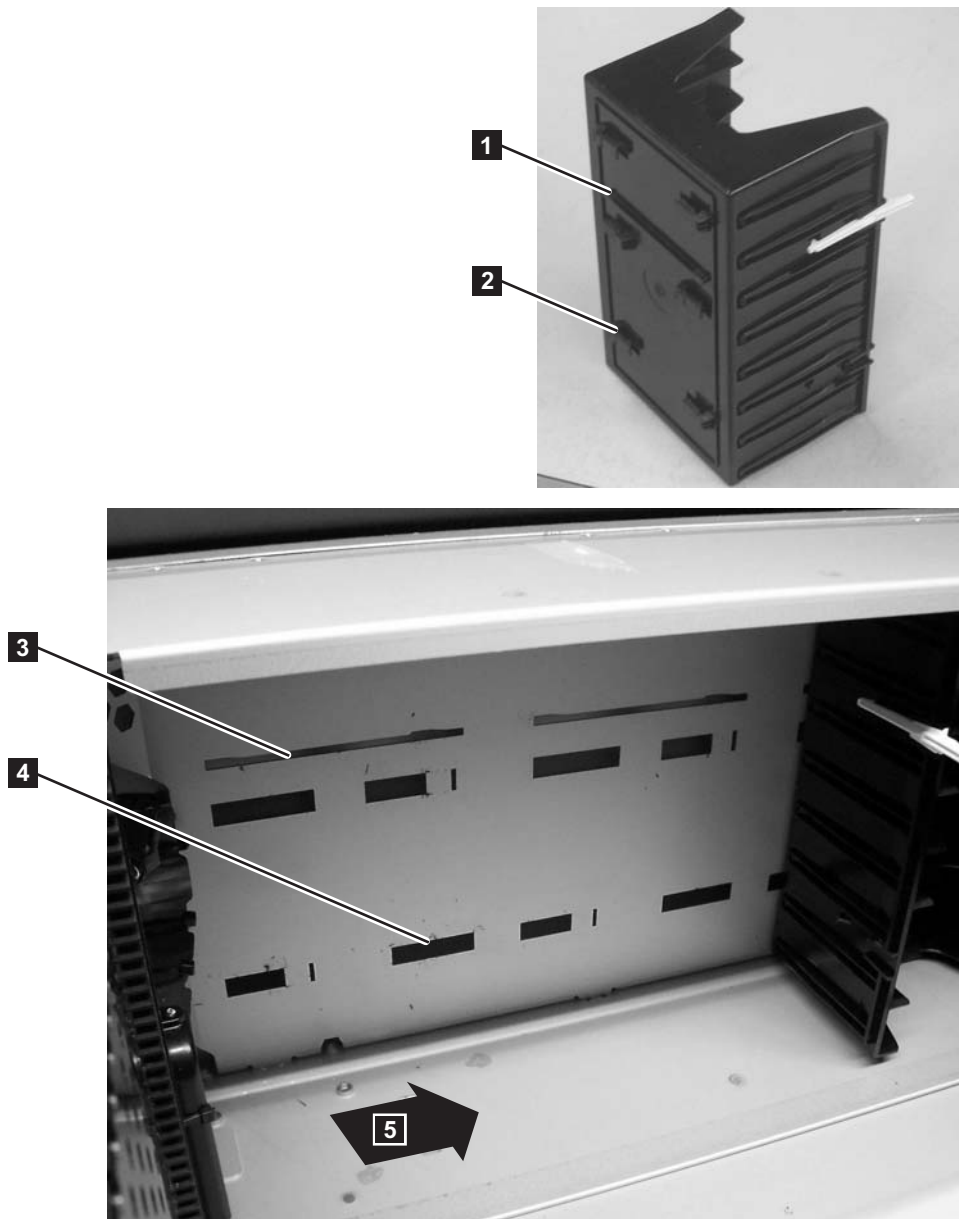

Figure 8-51. Replacing a Storage Column
- a. Tab **1** (in Figure 8-51) into slot **3** (in Figure 8-51)
- b. Tab **2** (in Figure 8-51) into slot **4** (in Figure 8-51)
4. Push the column towards the rear of the library (**5** in Figure 8-51) to engage the locking tabs on the back of the column.